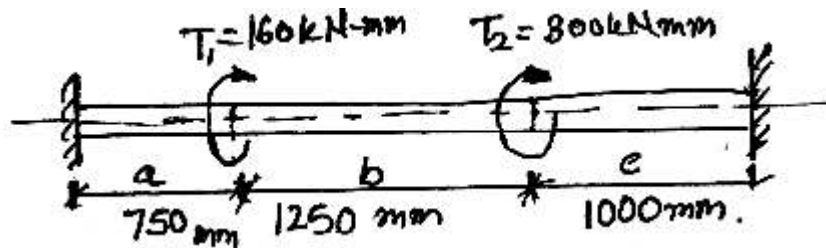

Fig. 10
8. (a) A uniform shaft of diameter 'd' is fixed at the ends and is subjected to twisting couples $T_1 = 160 \text{ kNm}$ and $T_2 = 300 \text{ kNm}$ as shown in Fig. 10. Find the torque T_a , T_b and T_c in the three portions of shaft. [9]